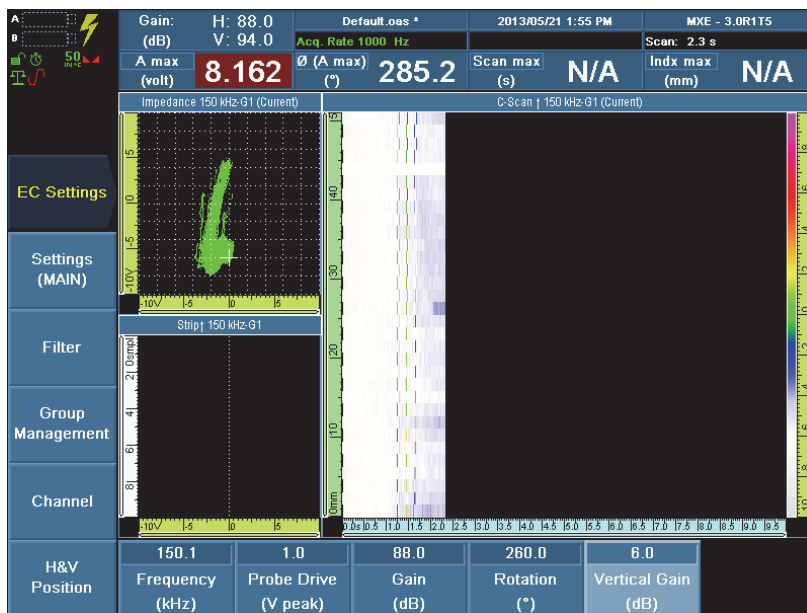

Figure 13-31 Adjusting the vertical gain to maximize the vertical deflection of the signal
9. Set the vertical gain: select **EC Settings > Settings (MAIN) > Vertical Gain (dB)**, adjust the value as needed to help maximize the vertical deflection of the signal, and then press the Accept key to confirm (see Figure 13-31 on page 281).